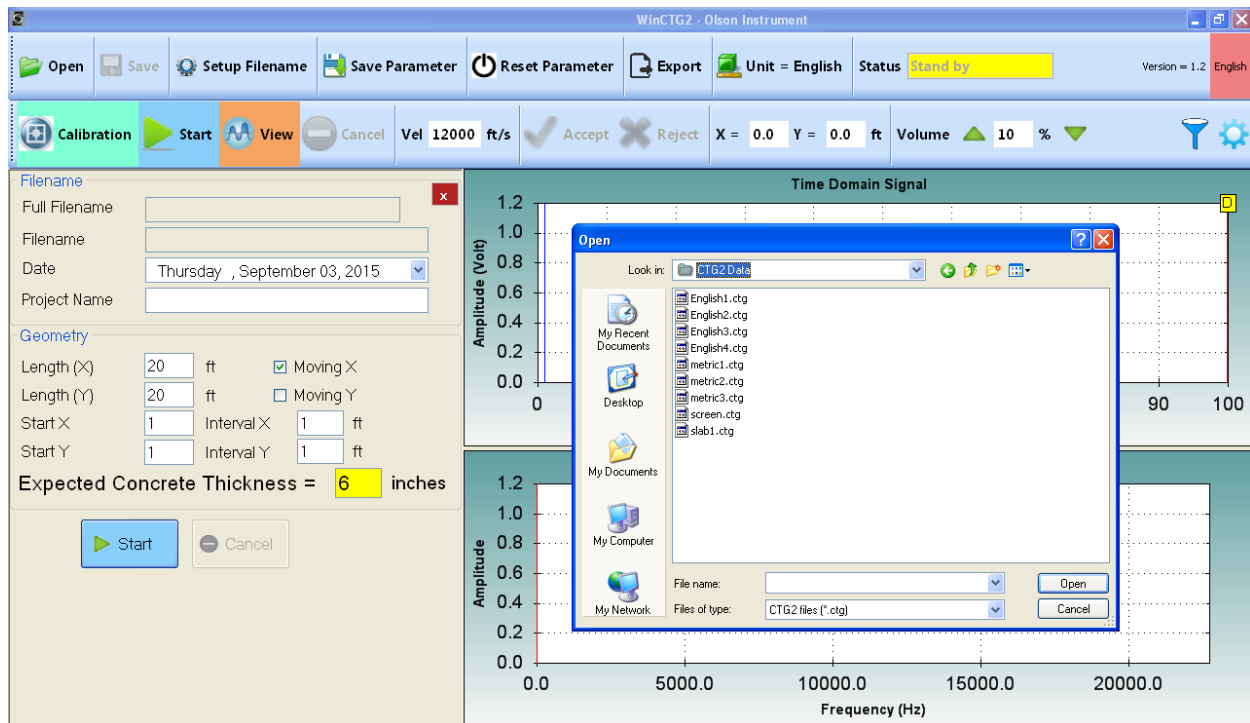

Figure 16 – Open File for Analysis
1. Select the “Open” option found in the Main Menu. The “Open” dialogue box will appear as shown in Figure 16 below. Navigate to the .ctg data files saved earlier and select the data file you want to open. After you have opened a file, the “Status” field will report that you are in “Analysis Mode”